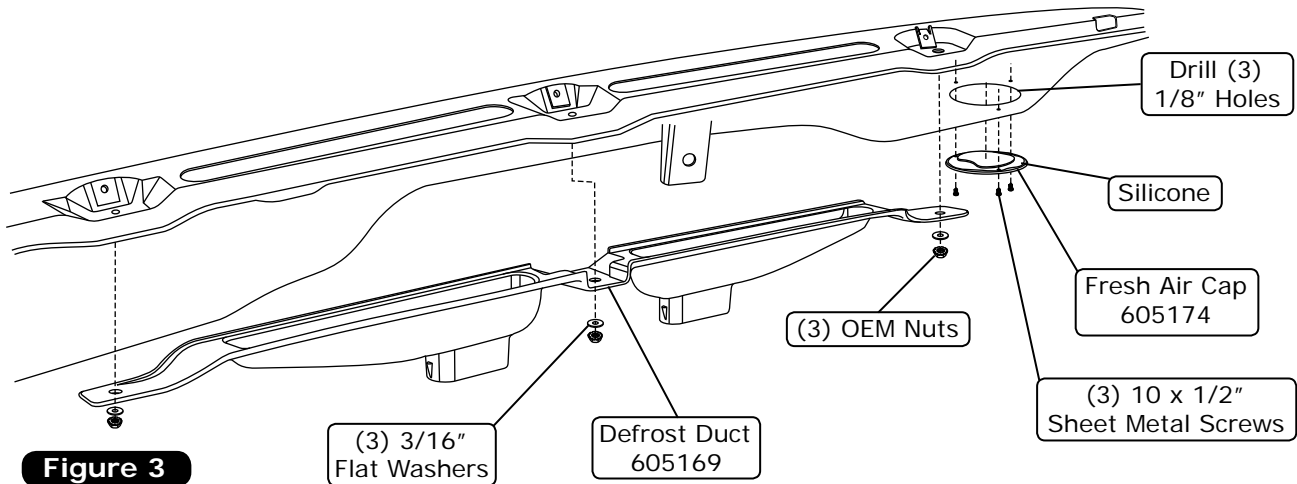

Figure 3
1. Install the defrost duct under the dash as shown in Figure 3, below. Secure it using the OEM nuts with (3) 3/16" flat washers.
2. Hold the fresh air cap under the dash and mark the (3) mounting holes.
3. Drill (3) 1/8" mounting holes under the dash.
4. Apply a 1/4" bead of silicone around the back side of the fresh air cap as shown in Figure 3, below.
5. Secure the fresh air cap to the fresh air hole using (3) #10 x 1/2" sheet metal screws as shown in Figure 3, below.